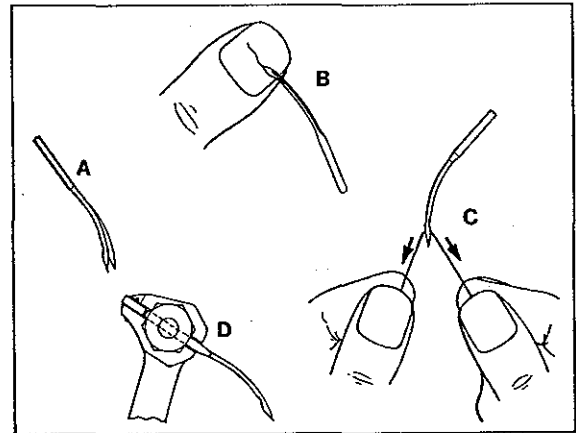

Fig. 2
- Place a new needle of the same type and size alongside the existing needle to check curvature of needle blade as shown (A, Fig. 2).
- Apply the thumbnail test to check for bluntness and/or hooks on the tip of needle(s) as shown (B, Fig. 2).
- Check for any sharpness around eye and/or grooves of needle(s). For a quick check, pull the thread up and down, back and forth through the needle eye as shown (C, Fig. 2). If any sharpness exists, it will shred and sever the thread.
- Be sure needle(s) is all the way up in needle holder and positioned correctly with the spot or scarf to the rear as shown (D, Fig. 2).